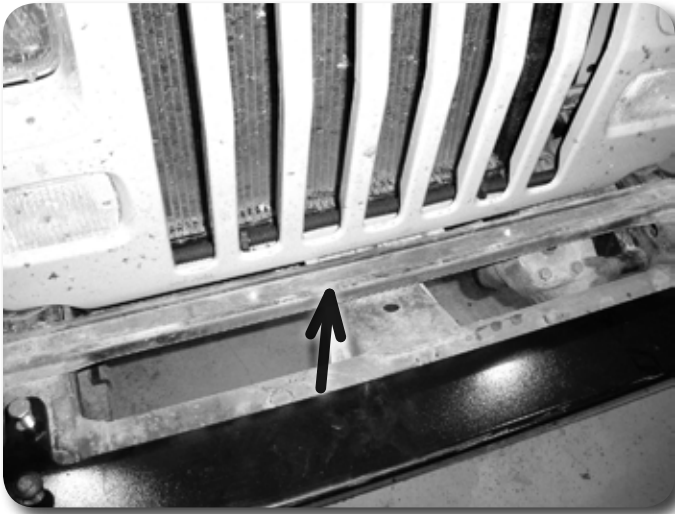

Figure 2
4. Remove the 2 bolts mounting the metal brake line plate to the frame rails (located under the "Jeep" cover). Disconnect the brake line from the plate by removing the plastic retainers. **Figure 2** The mount plate will not be reused. New plastic retainers are provided.